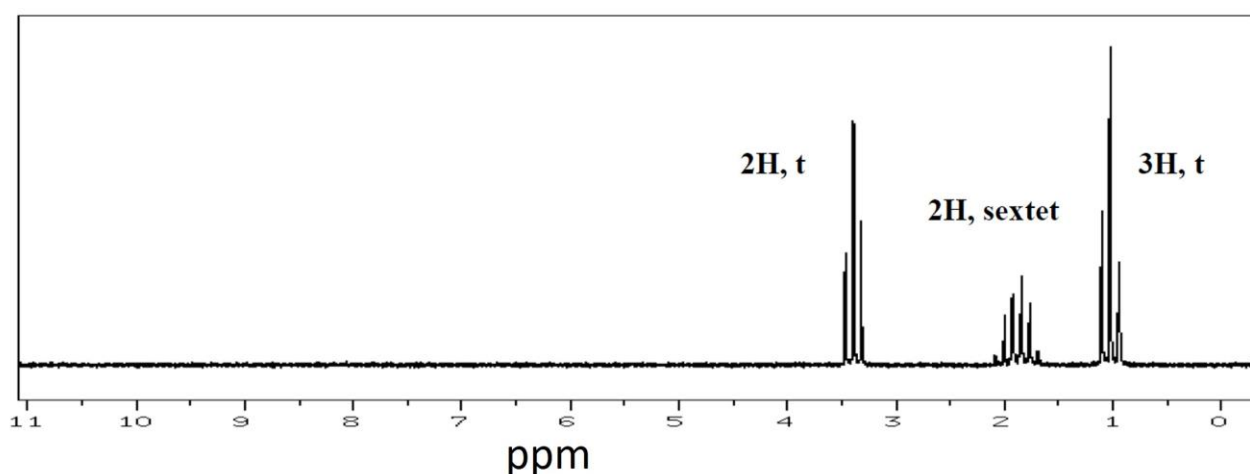

Figure Q4c – NMR spectrum of $\text{C}_3\text{H}_7\text{Cl}$ (where t represents triplet).
- (c) The ^1H NMR spectrum of $\text{C}_3\text{H}_7\text{Cl}$ is shown below in Figure Q4c.